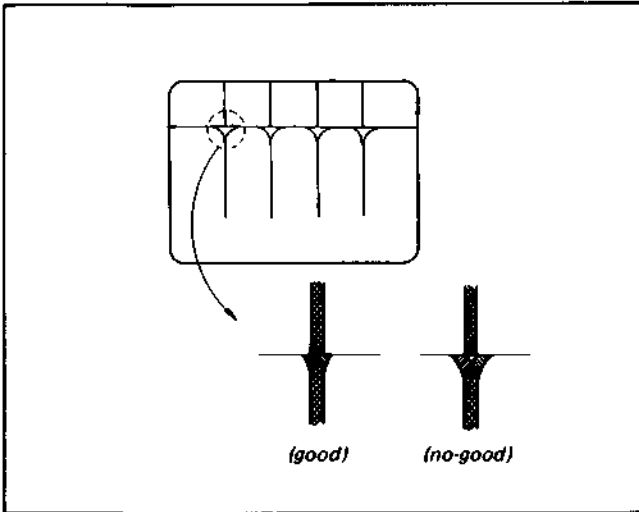
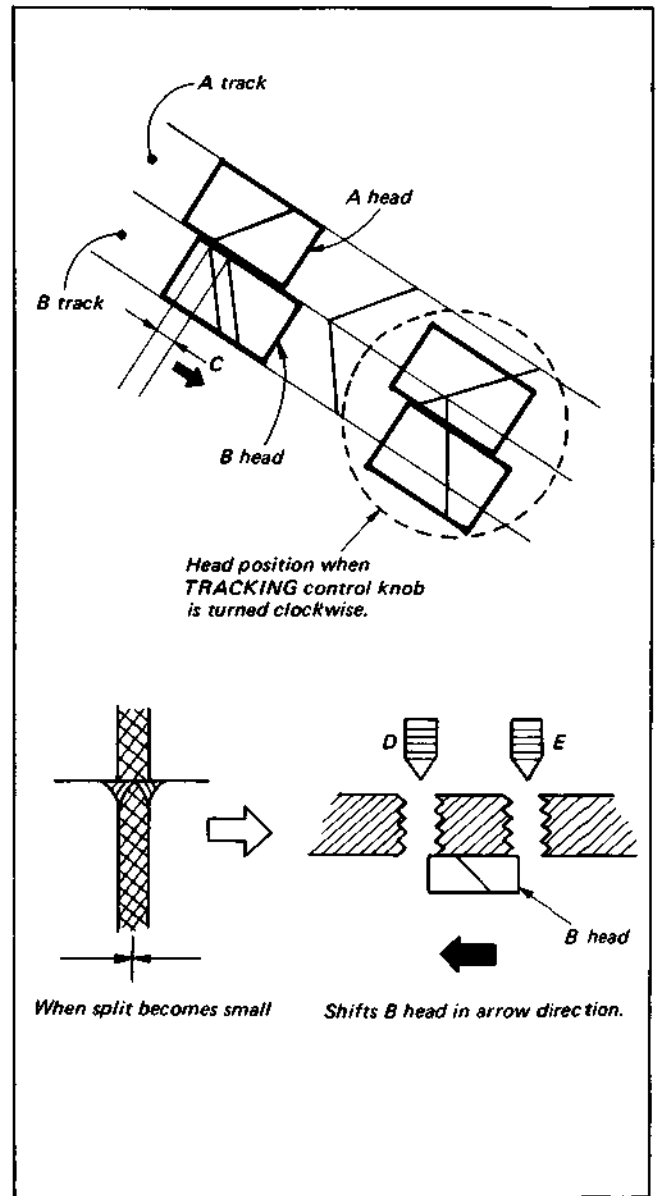
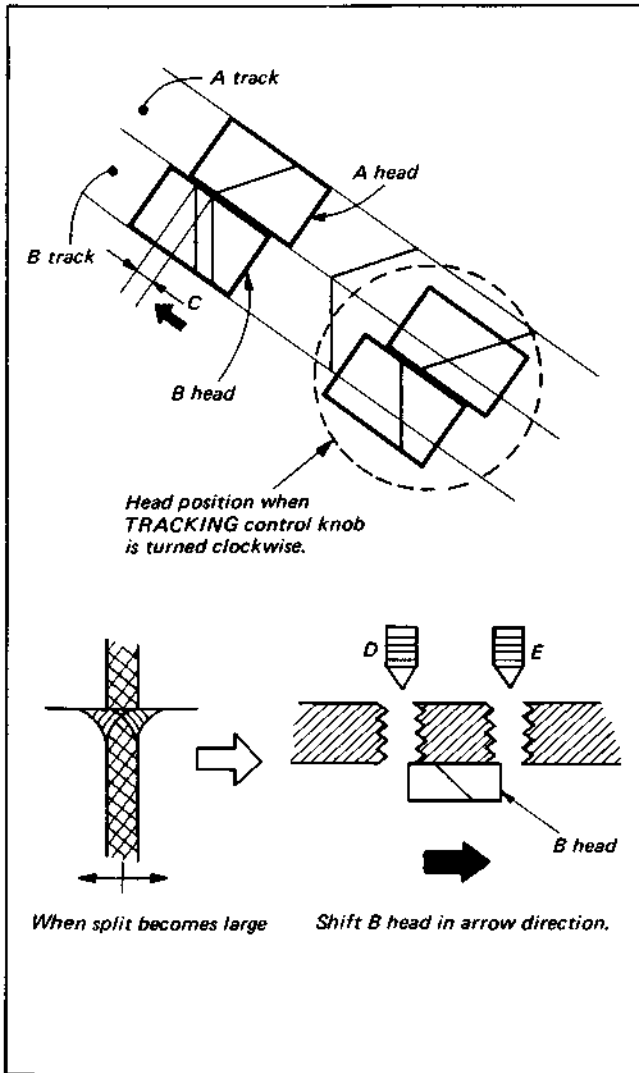

Fig. 3-53.
Fig. 3-55.
Fig. 3-56.
- The judgment of the video head dihedral must be performed in the condition that the monoscope signal segment of the alignment tape (KR5-1H) is played back and the TRACKING control knob is set to the center detent position. (See Fig. 3-53.)
- When the split becomes small for the clockwise turn of the TRACKING control knob, the B head shifts by C in the arrow direction as shown in Fig. 3-55 and is tracing the magnetic pattern on the tape. The adjusting screw in adjustment hole E shown in the figure must be tightened further to shift the B head in the left direction until the good dihedral shown in Fig. 3-53 is obtained. Set the TRACKING control knob to the center detent point.
- (2) When the split becomes large for the clockwise turn of the TRACKING control knob, the B head shifts by C in the arrow direction as shown in Fig. 3-56 and is tracing the magnetic pattern. The adjusting screw in adjustment hole D shown in the figure, must be tightened further to shift the B head in the right direction until the good dihedron shown in Fig. 3-53 is obtained. Set the TRACKING control knob to the center detent point.